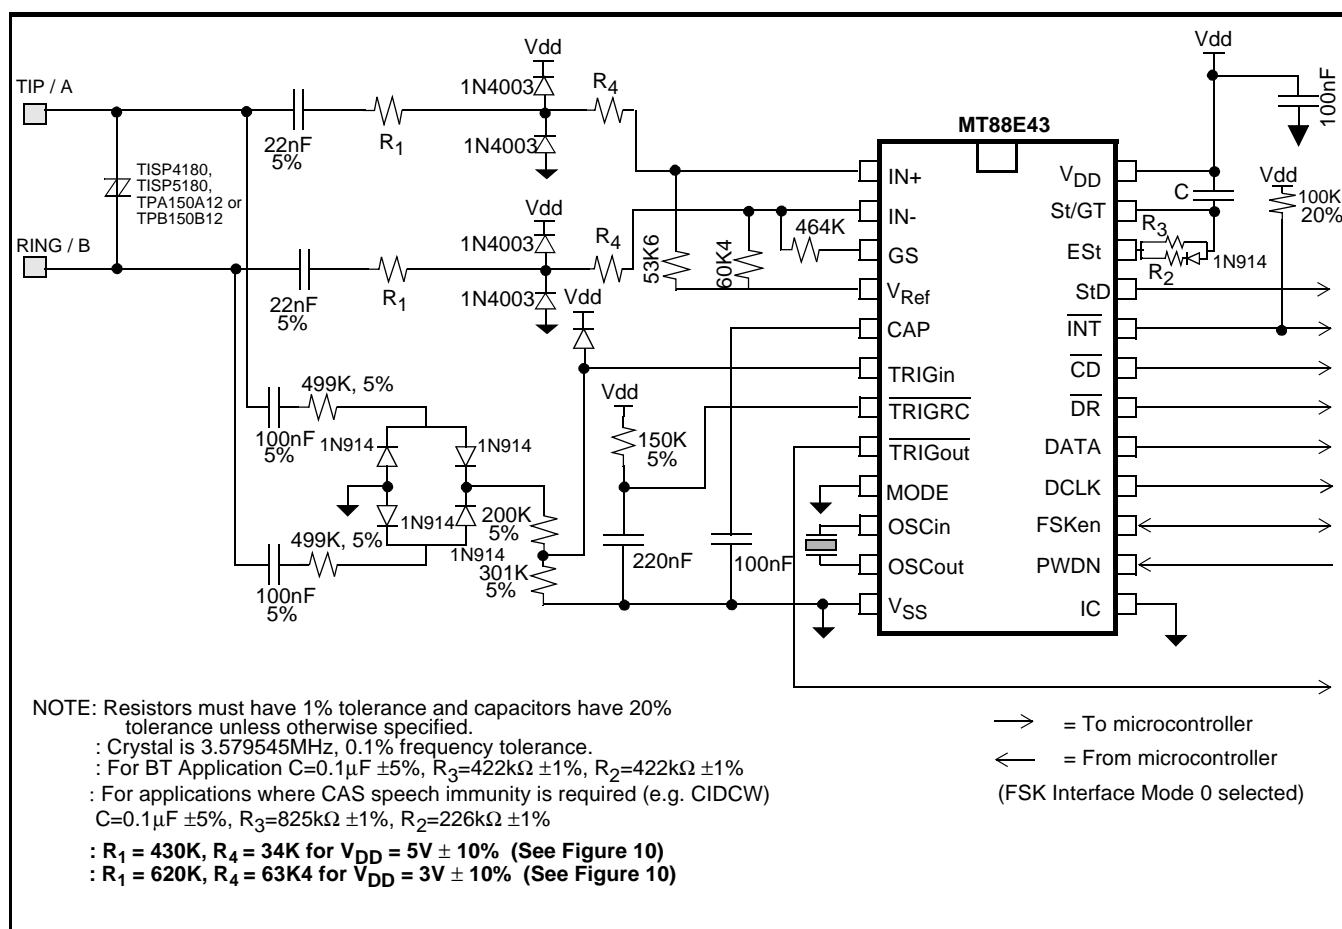
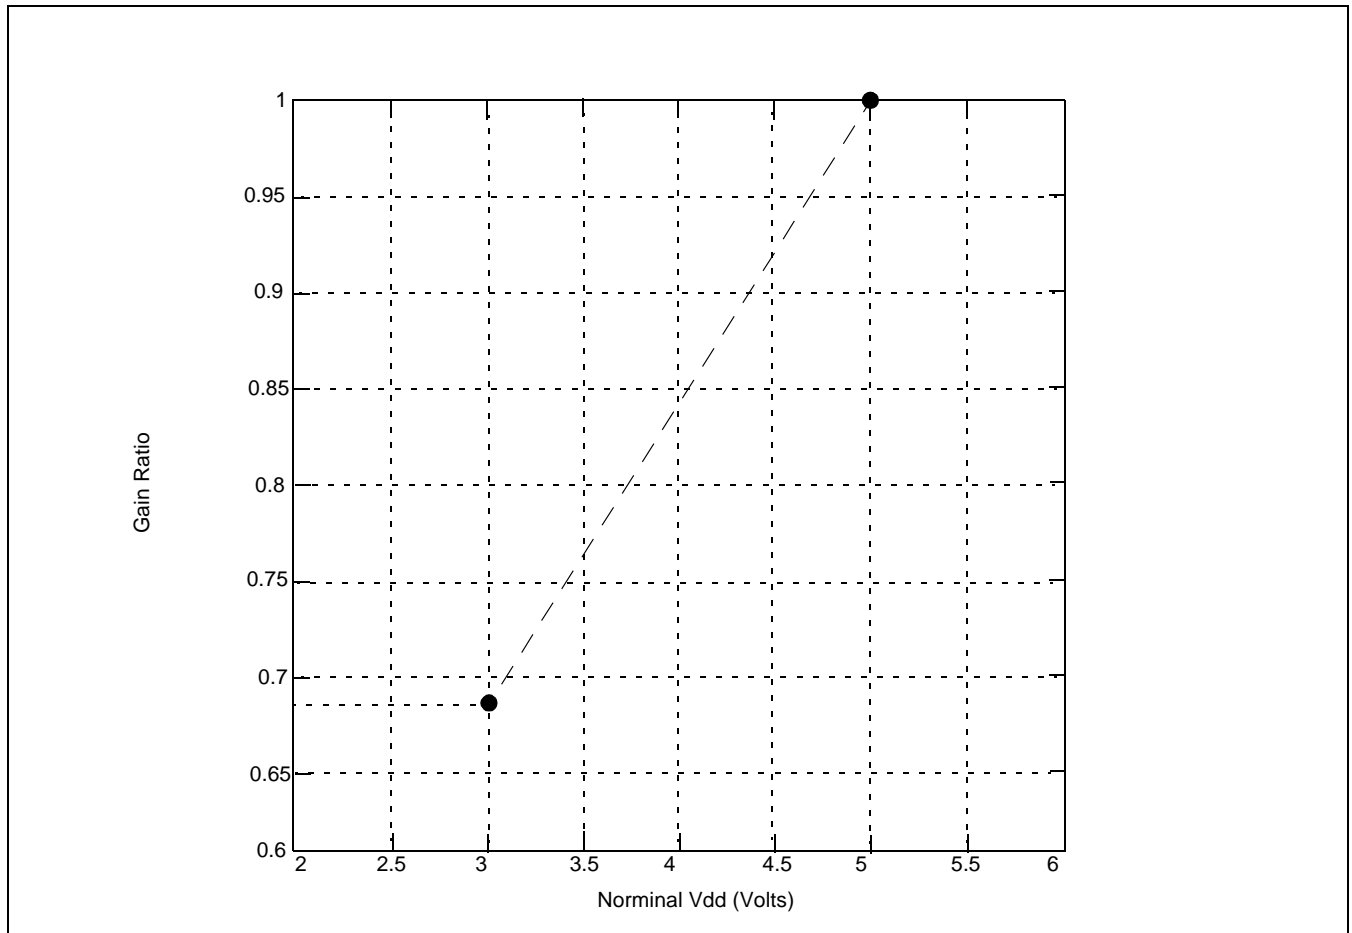

Figure 9 - Application Circuit
Figure 10: Gain Ratio as a function of Nominal Vdd
Figures 9 and 11 ($R2=R3=422K$, $C=0.1\mu F$) will meet the BT timing requirements.
The circuits shown in Figures 9 and 11 are application circuits for the MT88E43. As supply voltage (V_{DD}) is decreased, the threshold of the device's tone and FSK detectors will be reduced. Therefore, to meet the BT or Bellcore tone reject level requirements the gain of the internal opamp should be reduced according to the graph in Figure 10. For example when V_{DD}=5V (+/- 10%), R₁ should equal 430kΩ and R₄ should equal 34kΩ; and if V_{DD}=3V (+/- 10%) R₁ should equal 620kΩ and R₄ should equal 63.4kΩ. Resistors R₁ and R₄ are shown in Figures 9 and 11.
The circuit shown in Figure 9 illustrates the use of the MT88E43 in a proprietary system that doesn't need to meet FCC, DOC, and UL approvals. It should be noted that if glitches on the tip/ring interface are of sufficient amplitude, the circuit will falsely detect these signals as ringing or line reversal.
Note: In the application circuits shown in Figures 9 and 11, the Gain Ratio of MT88E43 opamp is
- With gain setting as shown in Figure 10. Production tested at 3V $\pm 10\%$, 5V $\pm 10\%$.